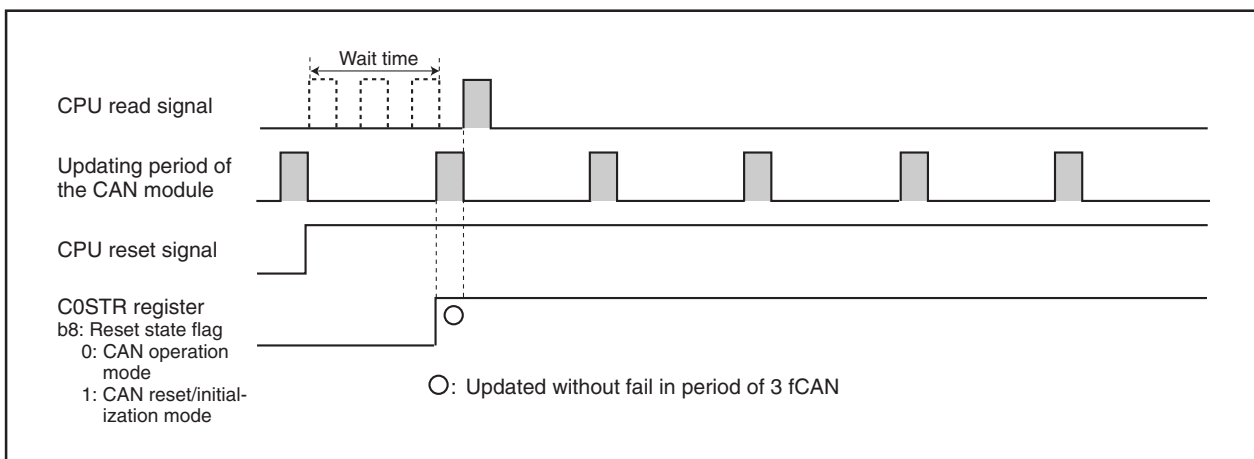

Figure 23.4 With a Wait Time of 3 fCAN Before CPU Read
- (a) There should be a wait time of 3fCAN or longer (see **Table 23.2 CAN Module Status Updating Period**) before the CPU reads the C0STR register. (See **Figure 23.4 With Wait Time of 3 fCAN before CPU Read.**)